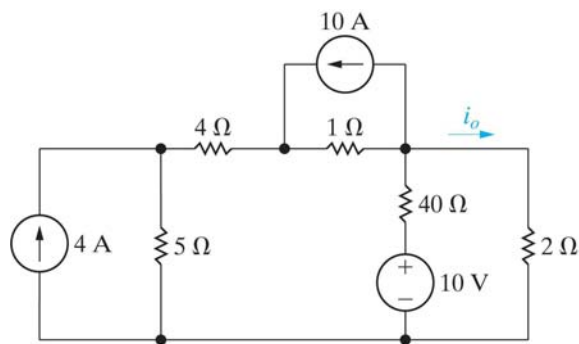

Figure 5
- (a) Use a series of source transformations to find  $i_0$  in the circuit in Fig. 5.